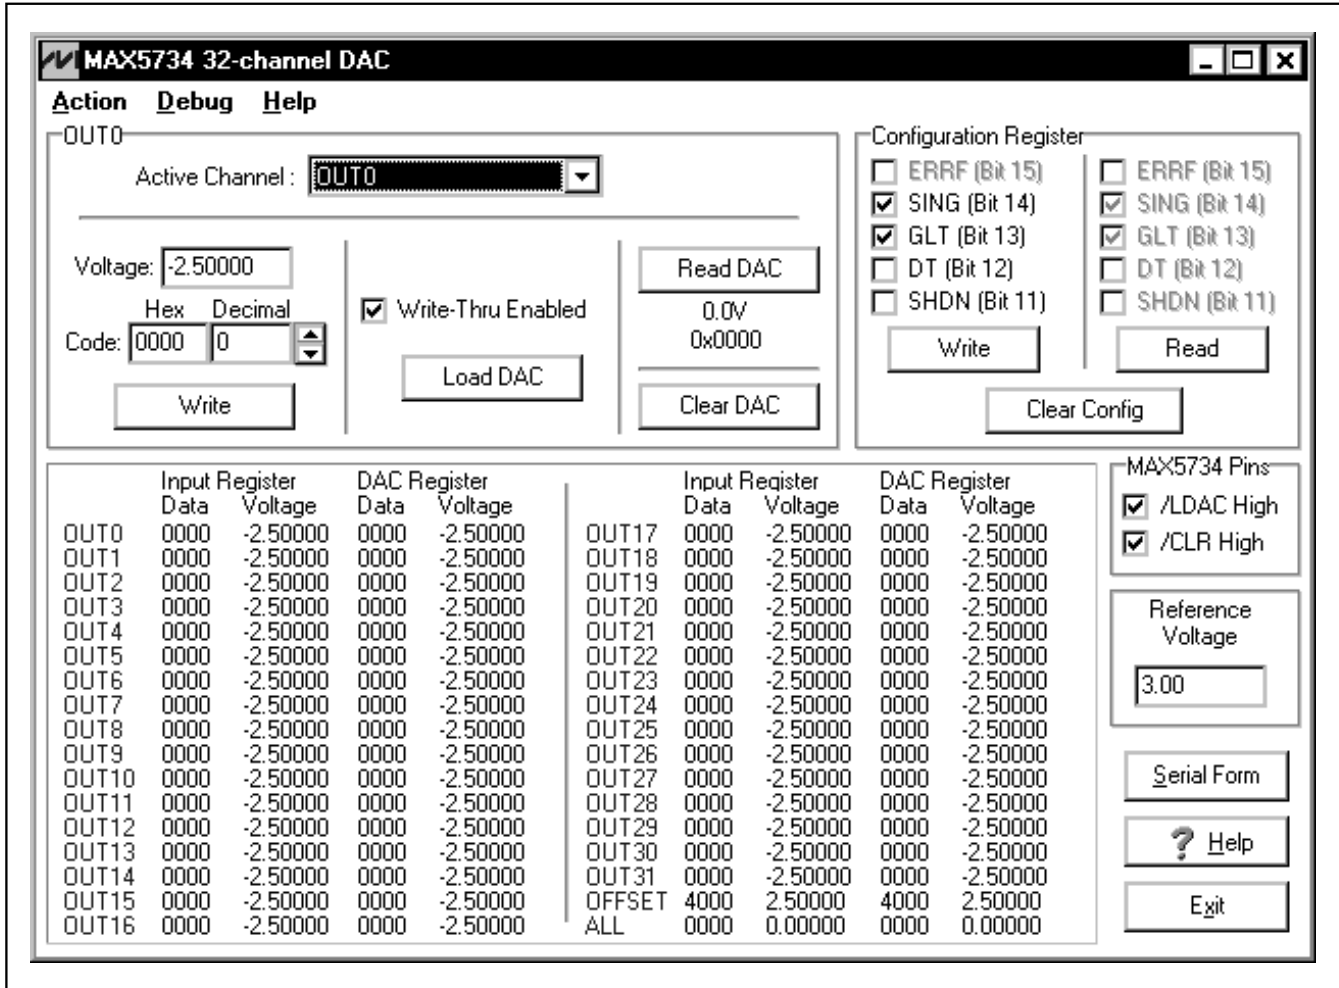

Figure 2. MAX5734 Evaluation Kit Main Form
- 13) The MAX5734 Evaluation Kit Main form window opens (shown in Figure 2) after the download to the 68HC16 module is complete.
The user interface (shown in Figure 2) is easy to operate; use the mouse, or press the tab and arrow keys to navigate.